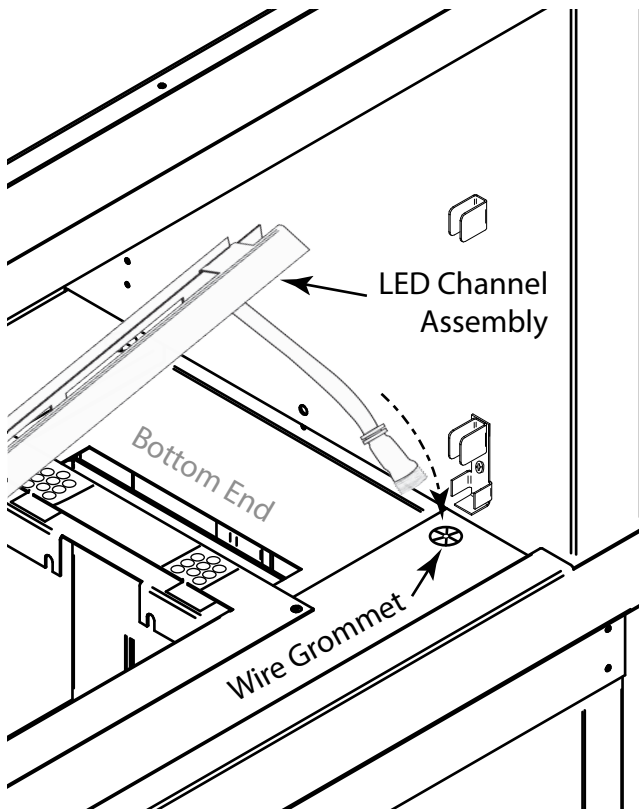

Fig. 20 Installing LED lights and channel
Step 6: Carefully push the LED channel assembly connector through the wire grommet. As you push it through the grommet sit the channel into the retainer clip. Ensure the other end of the channel is also sitting inside the other retainer clip. See Figs. 20 & 21 as a reference. **Note:** If you are installing into a see-through fireplace install the other LED light strip and channel the same direction.